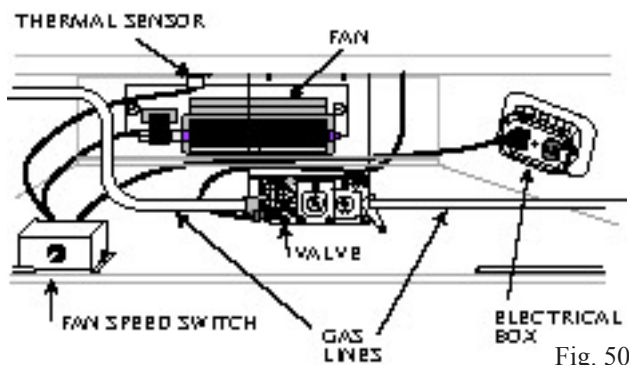

Fig. 50
- 3 Locate the fan speed control unit. This can be fitted behind the lower louvre assembly as in Fig. 50 or located remotely in a conveniently located wall mounted electrical box. Remote location of the speed control will require suitable extension of the component wiring.